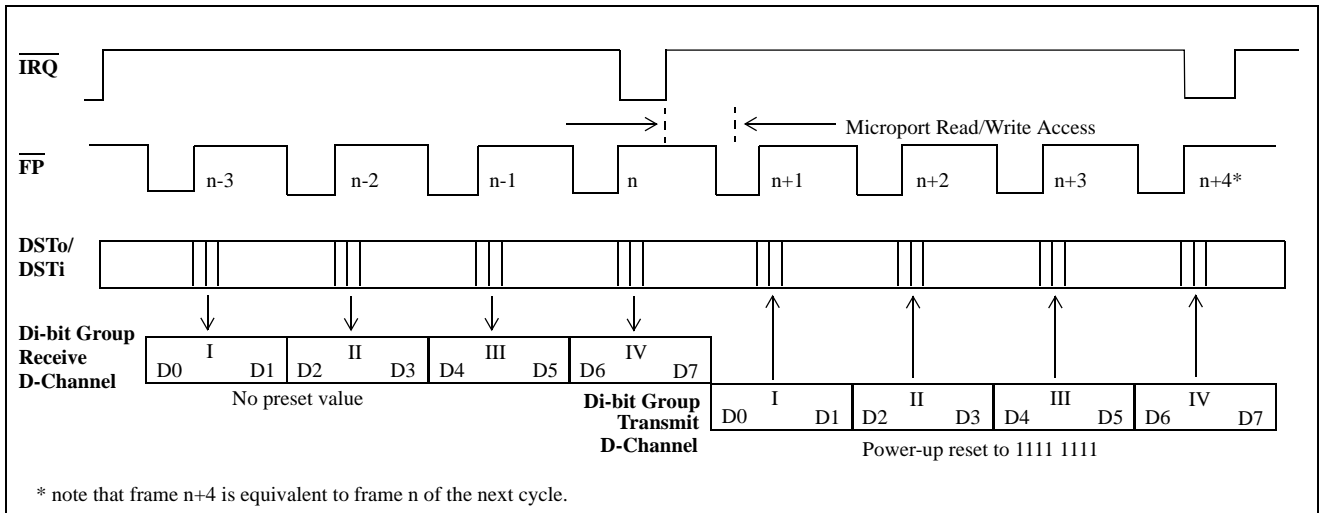

Figure 7a - D-Channel 16 kb/s Operation
- a. A microport read of address 04 hex will result in a byte of data being extracted which is composed of four di-bits (designated by roman numerals I,II,III,IV). These di-bits are composed of the two D-Channel bits received during each of frames n, n-1, n-2 and n-3. Referring to Fig. 7a: di-bit I is mapped from frame n-3, di-bit II is mapped from frame n-2, di-bit III is mapped from frame n-1 and di-bit IV is mapped from frame n.
- b. A microport write to Address 04 hex will result in a byte of data being loaded which is composed of four di-bits (designated by roman numerals I, II, III, IV). These di-bits are destined for the two D-Channel bits transmitted during each of frames n+1, n+2, n+3, n+4. Referring to Fig. 7a: di-bit I is mapped to frame n+1, di-bit II is mapped to frame n+2, di bit III is mapped to frame n+3 and di bit IV is mapped to frame n+4.